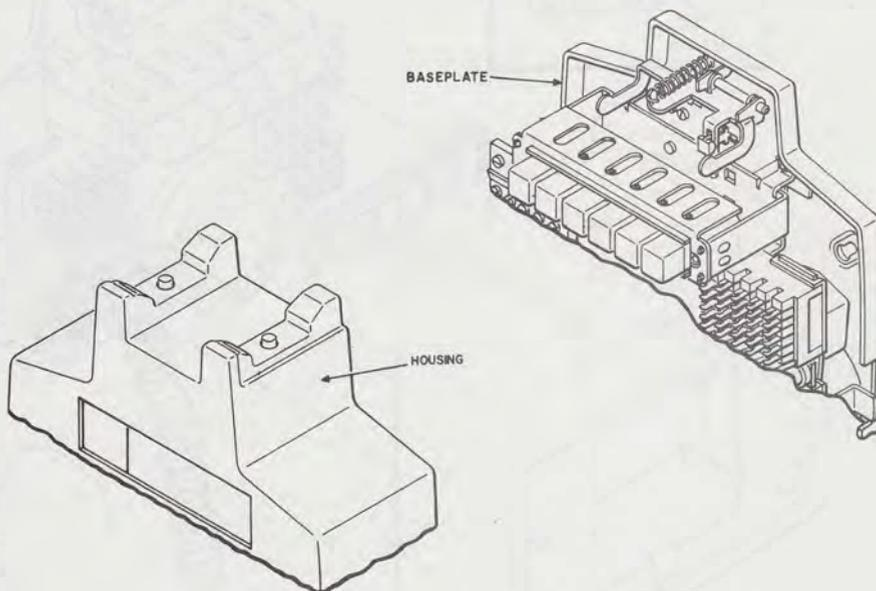
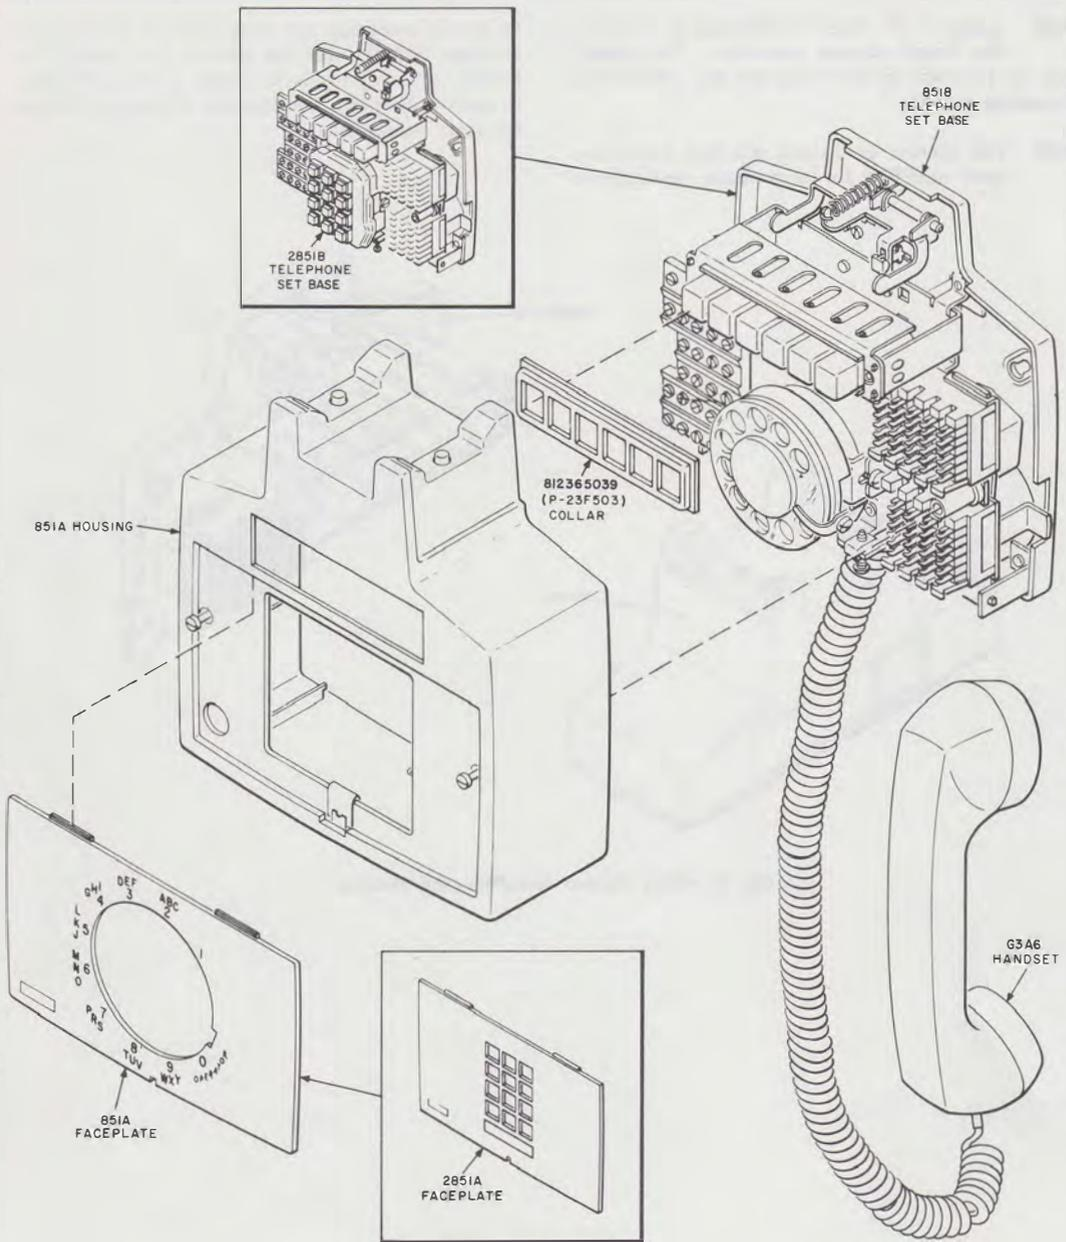

Fig. 17—Early Version Baseplate and Housing
Fig. 18—Station Arrangement, 851BT and 2851BT Telephone Set Showing Current 851A Housing and Base Plate
5.05 For field replacement of 851A housing—early version of housing (Fig. 17) can be used with sets equipped with either the early or current baseplate (Fig. 18, 19, and 20). The current housing (Fig. 18 or 19) can be used with the current baseplate only.